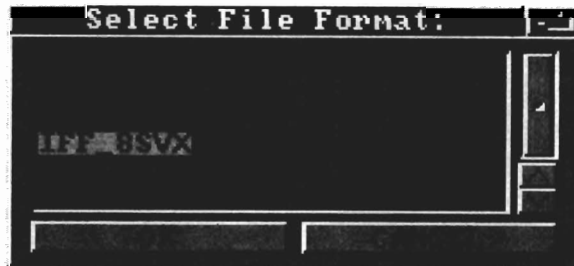

Figure 3-7. Convert Sample
4. Select **IFF-8SVX** for the file format. Figure 3-7.